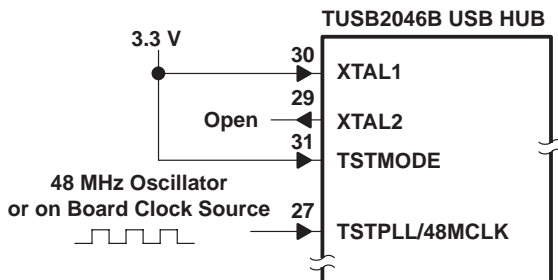

Figure 8. 48-MHz Input Clock Configuration
- A 48-MHz input clock configuration is shown in Figure 8. In this mode, both TSTMODE and XTAL1 terminals must be tied to 3.3 V V_{CC} . The hub accepts the 48 MHz clock input on TSTPLL/48MCLK (pin 27). XTAL2 must be left floating (open) for this configuration. Only the oscillator or the onboard clock source is accepted for this mode. A crystal can not be used for this mode, since the chip's internal oscillator cell only supports fundamental frequency.